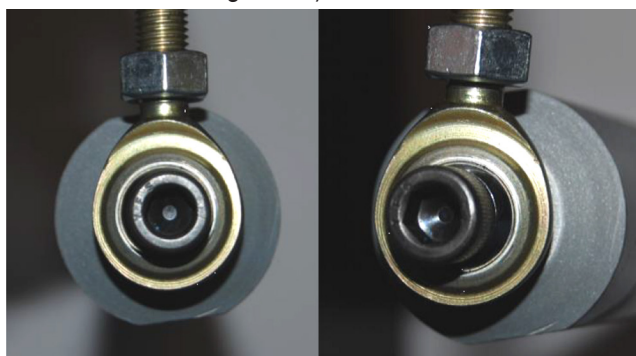

Figure 45. Heim Joint Orientation
- b. Verify heim joint is centered, and not rotated, when bolted on (Figure 45).